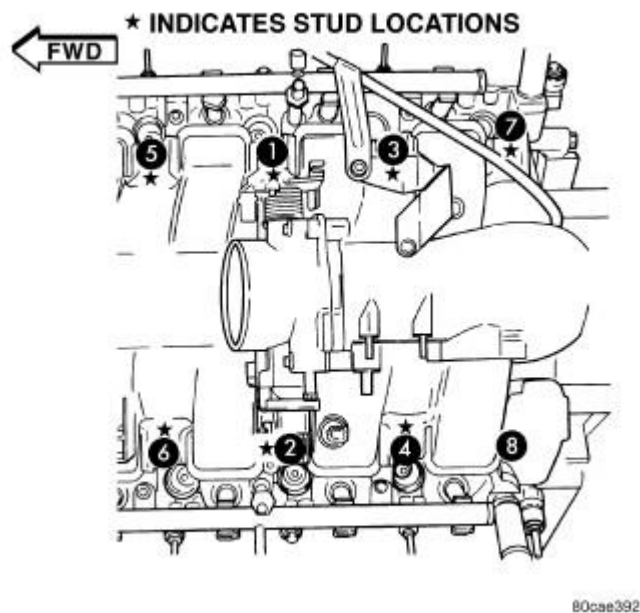

Fig. 17: Intake Manifold Bolt Removal/Tightening Sequence
18. Install the intake manifold. Refer to **Fig. 17**.